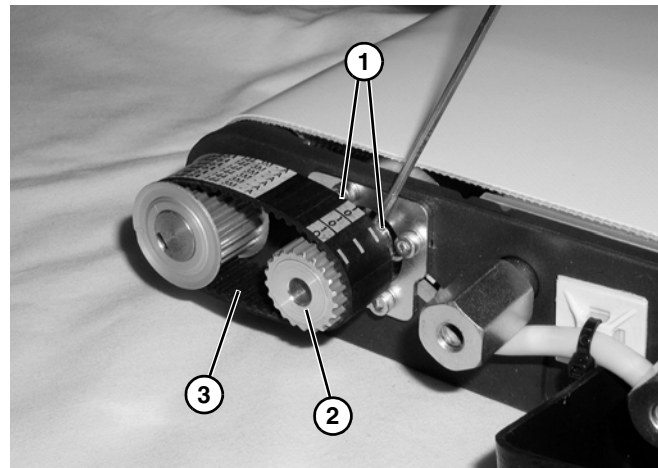

Figure 52
6. Loosen two set screws (**Figure 52, item 1**) on drive pulley (**Figure 52, item 2**). Slide drive pulley outward off of the gearmotor shaft, and remove timing belt (**Figure 52, item 3**).